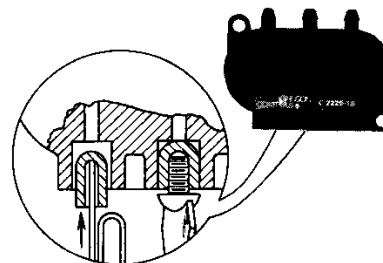

Fig. 3: Plug Installation
3. After the last subordinate is connected, the "L" and "S" receptacles must be plugged (see Fig. 3). The "H" receptacle is not plugged and must be open to atmosphere. Insert the small vinyl plugs into the receptacles and push them all the way in with a small probe such as a paper clip.